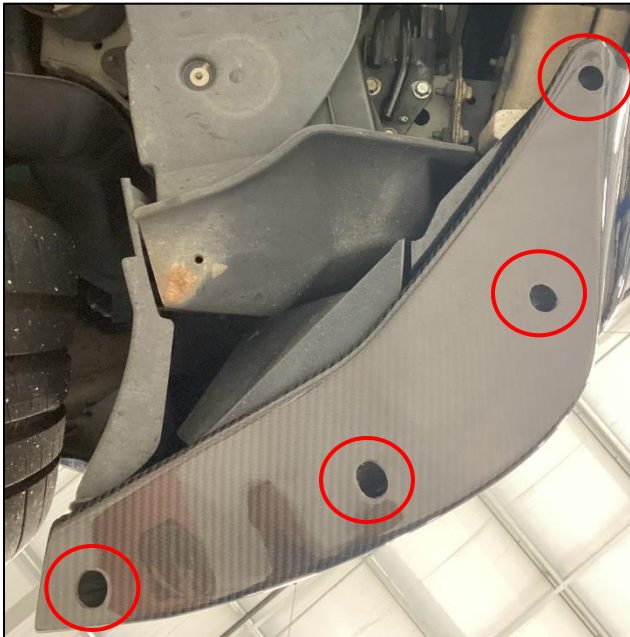

Figure 5
9. Locate (4) four Self-Tapping Screws. Using an Impact Driver and Socket, install (1) one Screw into each hole on the bottom of the Spat and through the rear Bumper. *Figure 5.*